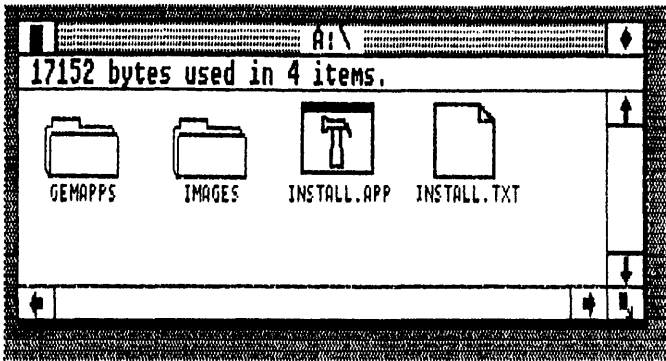

Fig. 3-1. Double-click on the INSTALL.APP icon for installing GEM Paint.
- Double-click on the INSTALL.APP icon (Fig. 3-1).